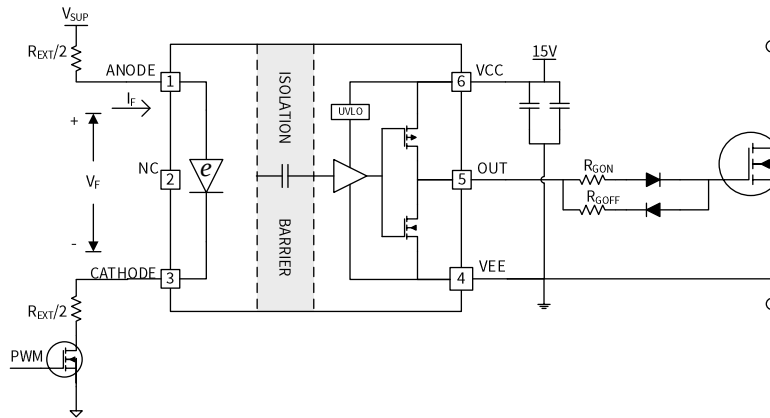
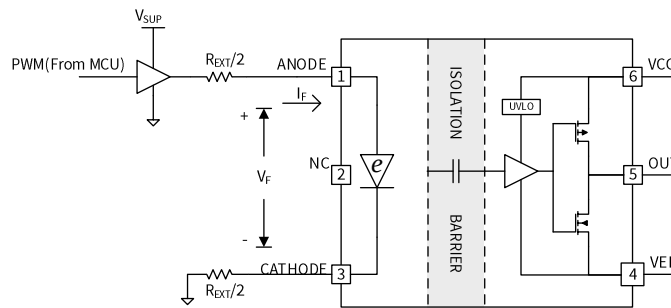
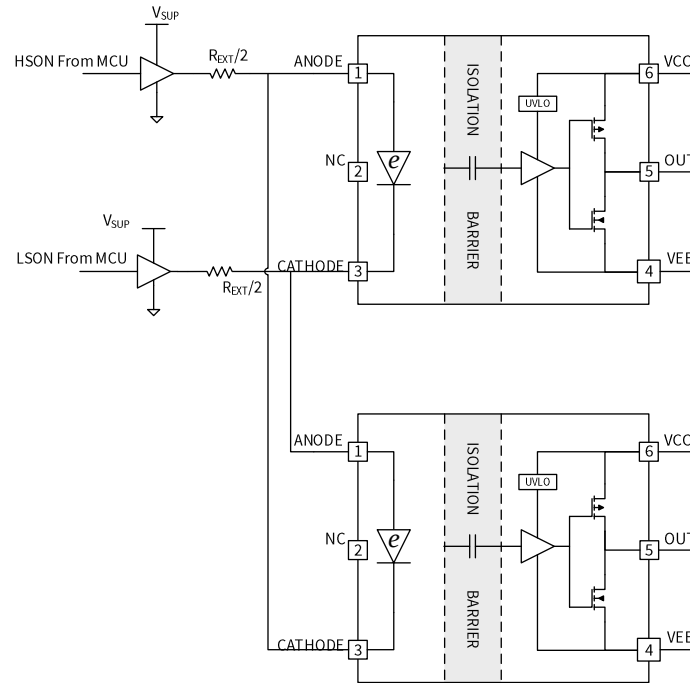

Figure 9.1 NSI68013E typical application circuit with NMOS driving input stage
Figure 9.2 NSI68013E typical application circuit with one buffer driving input stage
Figure 9.3 Interlock Protection using NSI68013E
NSI68013E requires 7mA to 16mA bias current that flows into the e-diode for normal operation. The PWM from MCU is not suitable to provide such current directly and external circuit is needed. In Figure 9.1, one NMOS is used with split input resistors. Another input drive method is using one buffer, as shown in Figure 9.2. The details to calculate input drive parameters are in Chapter 9.3.
For applications to drive power transistors in half bridge configuration, two NSI68013E can be used. Interlock protection is possible as shown in Figure 9.3. If the controller has some mistake, leading to negative dead time, the output PWM of NSI68013E is adjusted to avoid power transistor shoot through. The input side reverse breakdown voltage of NSI68013E is greater than 6.5V, which supports interlock protection of 3.3V or 5V PWM signal source.
The recommended forward current range for NSI68013E is 7mA to 16mA. The value of input resistor, buffer supply voltage and buffer internal resistance influence the forward current, as shown in Equation (1). In Figure 9.1, R_{IN1} is the on-resistance of the external NMOS. In Figure 9.2, R_{IN2} is the buffer output impedance in output “High” state. In Figure 9.3, R_{IN3} is the summary of buffer output impedance in “High” and “Low” state.